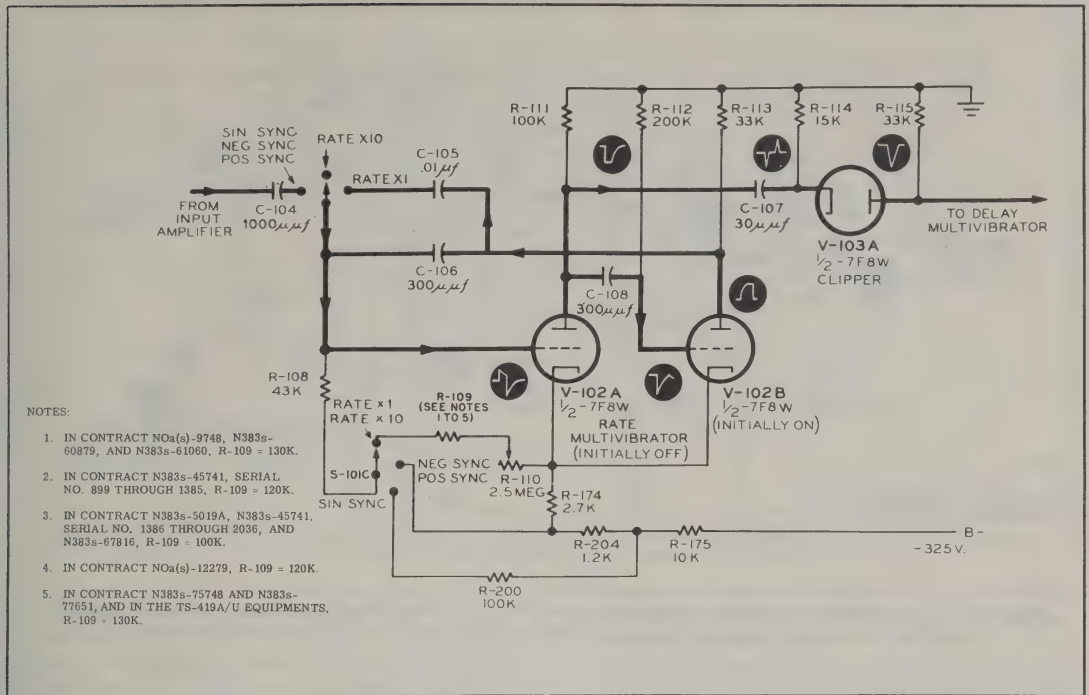

Figure 3-6. Signal Generator TS-419/U, Rate Multivibrator, Simplified Schematic Diagram
c. RATE MULTIVIBRATOR.—The rate multivibrator V-102 (figure 3-6) is operated either as a one-shot multivibrator when it is to be synchronized by the output of the input amplifier V-101, or as a free-running multivibrator when the pulse repetition rate is to be determined internally.
(1) SYNCHRONIZED OPERATION.—Initially, V-102A is not conducting, since the grid is returned by way of R-108 and S-101C to a negative bias developed across R-174 by the flow of cathode current from V-102B. When V-102A is drawn into a state of conduction, due to the application of a positive pulse on its grid, a negative output pulse is developed across plate resistor R-111. This output pulse is applied simultaneously to the RC circuit, C-107 and R-114, and through C-108 to the grid of the normally conducting tube V-102B, thereby cutting it off. The positive pulse resulting at plate resistor R-113 of V-102B is coupled through C-106 to the grid of V-102A, thereby enhancing the firing action originally due to the input triggering pulse. A return triggering action restores the multivibrator to its original condition when C-108 has discharged sufficiently through R-112 to permit renewed conduction in V-102B. The negative output pulse occurring across plate load resistor R-111 of V-102A is then differentiated by C-107 and R-114. The resulting negative pip is passed by V-103A to V-104, but the positive pip is blocked, because of the too-high cathode potential with respect to its plate.
(2) FREE-RUNNING OPERATION. — During free-running operation, the grid of V-102A is returned to the cathode through R-108, S-101C, R-109, and R-110. When power is applied, V-102B tends to draw a heavy plate current, causing a drop across R-113 which is passed to the grid of V-102A through capacitor C-106. V-102A is cut off and its plate voltage rises. This increase is passed back to the grid of V-102B through C-108, thereby enhancing the firing action. When the charge leaks off C-106 through R-108, R-109, and R-110, V-102A begins to conduct, its plate voltage drops, and this charge is passed by C-108 to the grid of V-102B, thereby cutting it off and causing its plate voltage to rise. This rise is passed back to the grid of V-102A through C-106, thereby reinforcing the firing action; however, C-108 is soon discharged by R-112, and V-102B again begins to conduct. The cycle then repeats after a time interval determined by the sum of the time constants due to C-108 and R-112 and C-106 and R-108, R-109, and R-110. The pulse repetition rate is varied by changing R-110 and the range is changed further by connecting C-105 in parallel with C-106 by means of S-101B. The longer the time constant (as by increasing either R or C) the longer the cycle takes and consequently, the fewer the cycles that occur each second and the lower the repetition rate.